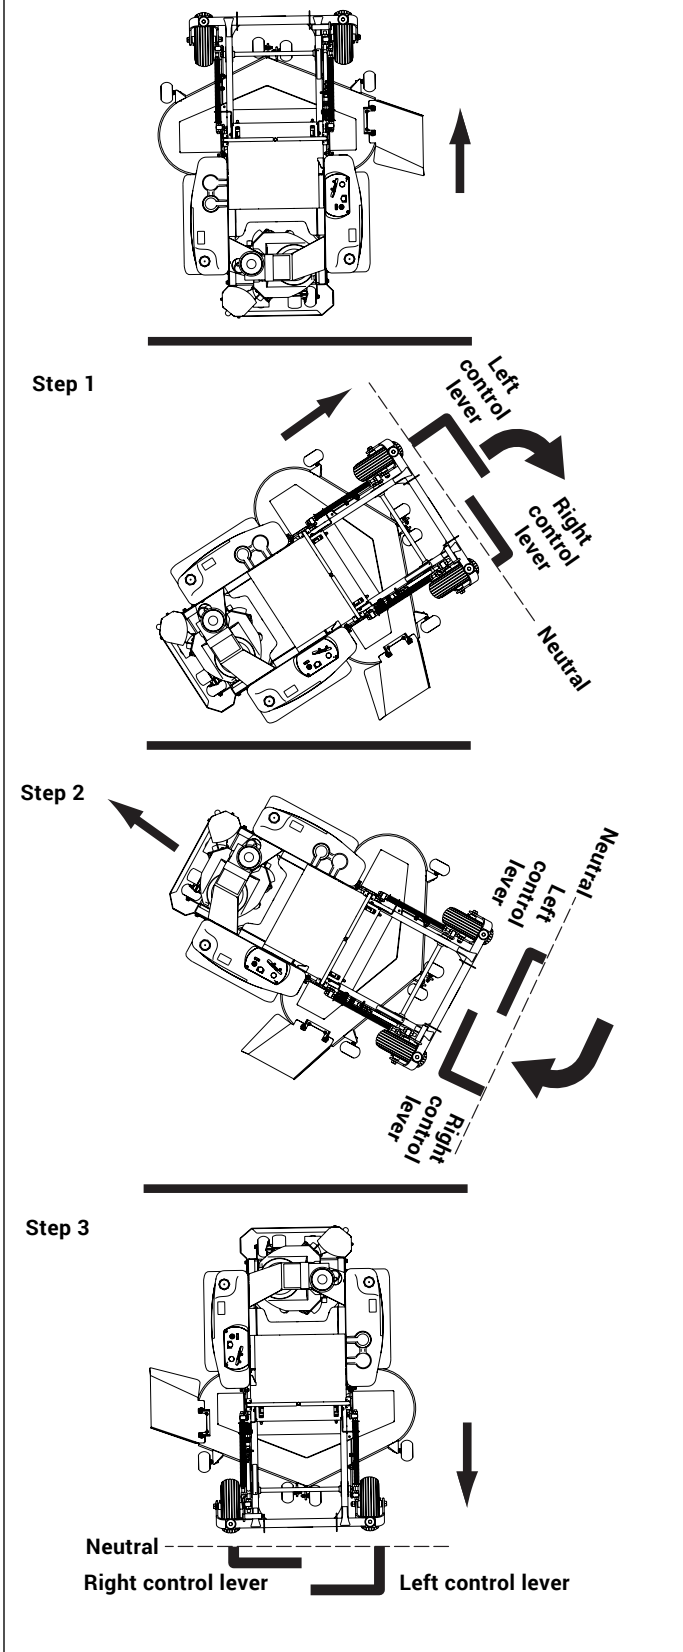

Figure 3-10
1. Move the left steering control lever farther forward from neutral than the right steering control lever and start the turn. Figure 3-10
2. Next, pull back on the steering control levers until they pass neutral and the machine starts to go rearward. Figure 3-10
3. Pull the right steering control lever farther rearward from neutral than the left steering control lever until the rear of the machine pivots around. Figure 3-10
4. Then, push the steering control levers forward until they both pass neutral and the machine starts to go forward. Figure 3-10
5. Push the left steering control lever farther forward from neutral than the right steering control lever and finish the turn. Figure 3-10